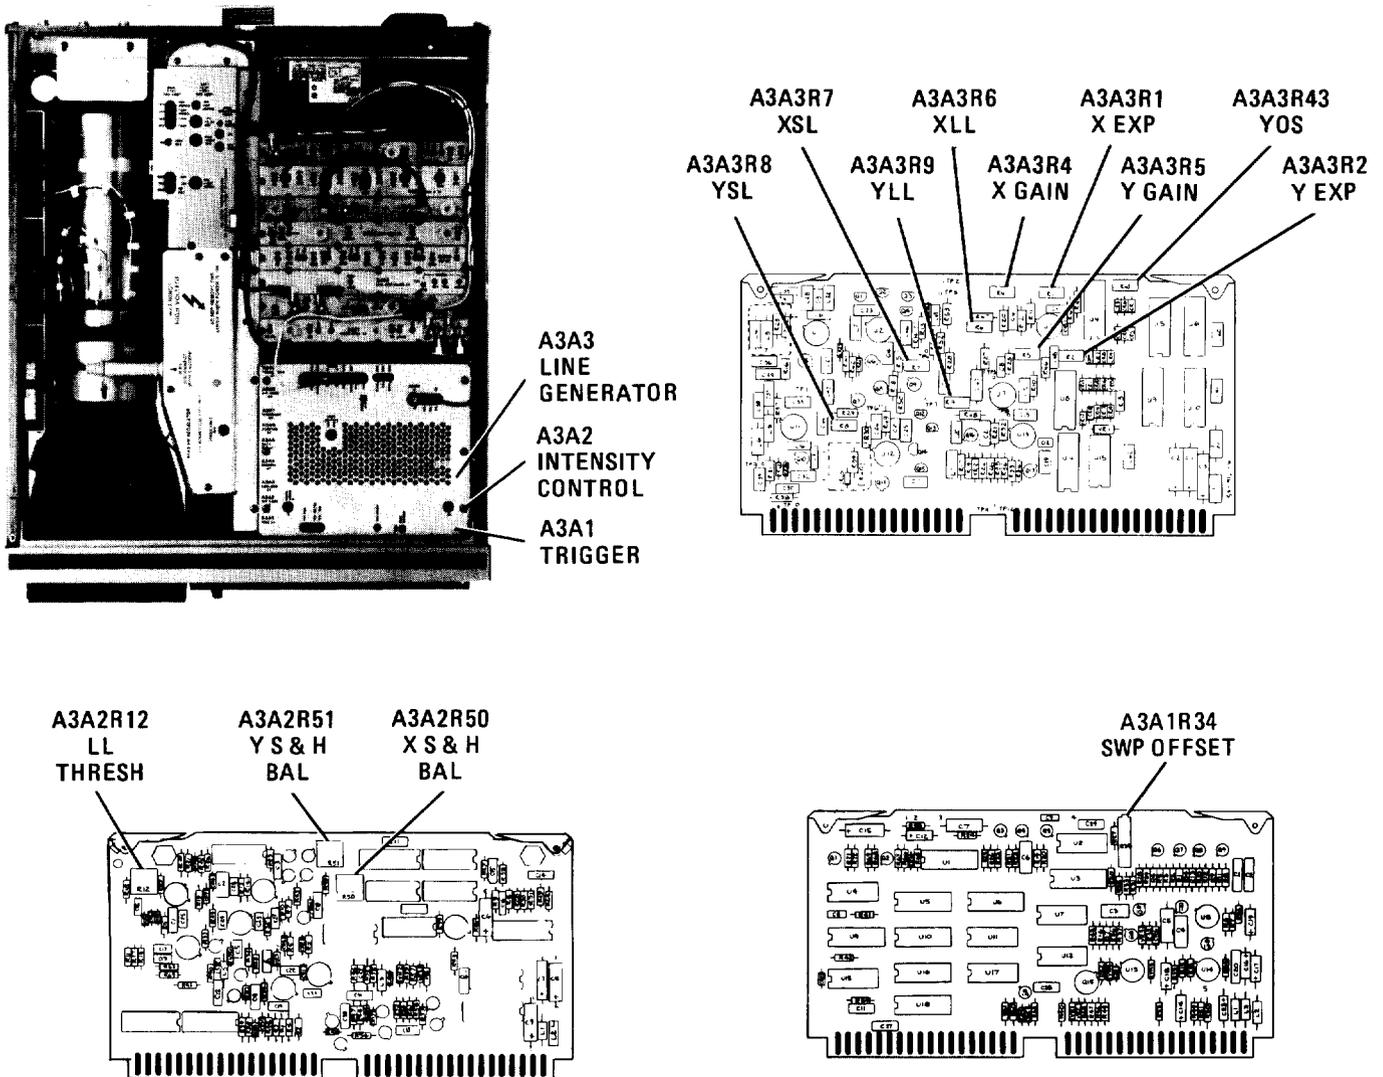
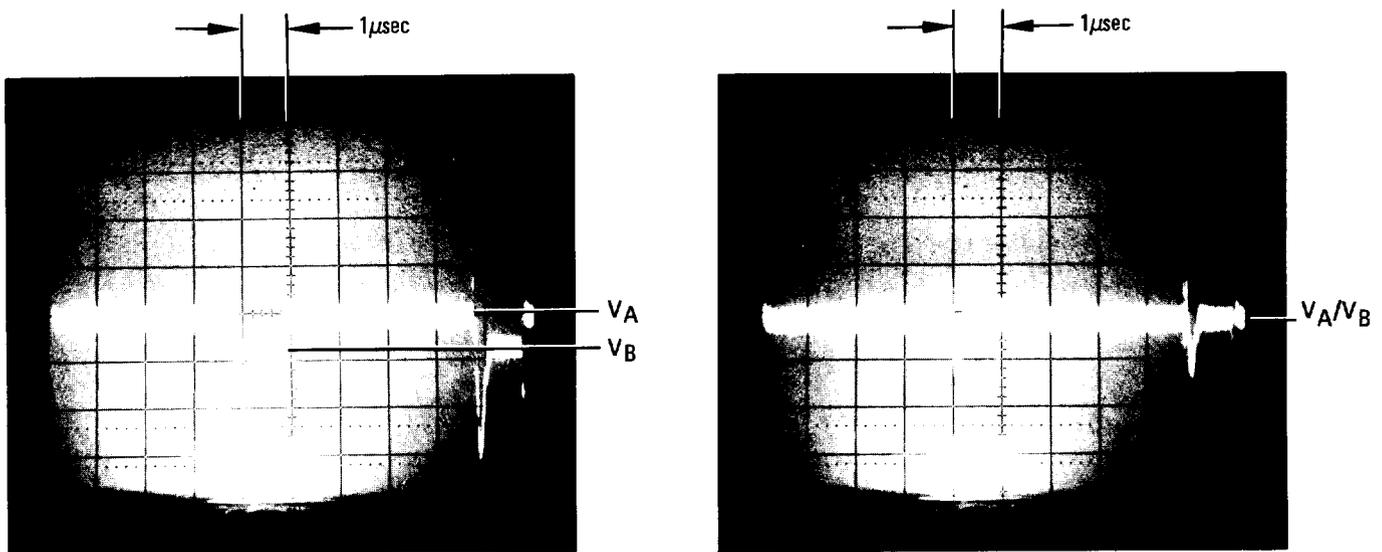

FIGURE 79. LOCATION OF DIGITAL STORAGE DISPLAY ADJUSTMENTS
FIGURE 80. SAMPLE AND HOLD BALANCE ADJUSTMENT WAVEFORMS
4. Adjust A3A3R4 X GAIN and A3A3R5 Y GAIN to place graticule information completely on CRT. Refer to Figure 79 for location of adjustment.
5. Adjust A3A2R12 LL THRESH fully clockwise. Refer to Figure 79 for location of adjustment.
6. Adjust A3A3R6 XLL so that horizontal graticule lines just meet the vertical graticule lines at the left and right sides of the graticule. Refer to Figure 79 for location of adjustment.
7. Adjust A3A3R9 YLL so that vertical graticule lines just meet the horizontal graticule lines at the top and bottom of the graticule. Refer to Figure 79 for location of adjustment.
9. Adjust A3A2R12 LL THRESH fully counterclockwise. Refer to Figure 79 for location of adjustment.
10. Adjust A3A3R7 XSL so that horizontal graticule lines just meet the vertical graticule lines at the left and right sides of the graticule. Refer to Figure 79 for location of adjustment.
11. Adjust A3A3R8 YSL so that the vertical graticule lines just meet the horizontal graticule lines at the top and bottom of the graticule. Refer to Figure 79 for location of adjustment.
18. Connect A3A3TP11 to oscilloscope External Trigger Input and adjust oscilloscope controls for display as shown in Figure 80.
19. Adjust A3A2R50 X S&H BAL for minimum dc offset level between V_A and V_B as illustrated in Figure 80. Refer to Figure 79 for location of adjustment.
21. Adjust A3A2R51 Y S&H BAL for minimum dc offset level between V_A and V_B as illustrated in Figure 80. Refer to Figure 79 for location of adjustment.
29. Adjust A3A1R34 SWP OFFSET so that the signal trace begins at the left edge graticule line. Refer to Figure 79 for location of adjustment.
30. Adjust A3A3R4 X GAIN for twenty cycles displayed on the CRT graticule. This may be made easier by adjusting A3A1R34 SWP OFFSET so that the first peak is centered on the left edge graticule line, then adjusting A3A3R4 X GAIN for two cycles per division with the twentieth cycle being centered on the right edge graticule line. A3A1R34 SWP OFFSET must then be readjusted so that the trace begins at the left edge graticule line. Refer to Figure 79 for location of adjustment.
36. Adjust A3A3R43 YOS to align the bottom graticule line with the fast sweep signal trace. Refer to Figure 79 for location of adjustment.
39. Adjust A3A3R5 Y GAIN to align the top graticule line with the fast sweep signal trace. Refer to Figure 79 for location of adjustment.
48. Adjust A3A3R1 X EXP to center the letter "F" in "REF" (CRT annotation in upper left corner of display) over the left edge graticule line. Refer to Figure 79 for location of adjustment.
49. Adjust A3A3R2 Y EXP to align the remainder of the CRT annotation so that the upper annotation (MARKER data) is above the top graticule line and the lower annotation (START and STOP data) is below the bottom graticule line. Adjust for equal spacing above and below the graticule pattern. Refer to Figure 79 for location of adjustment.